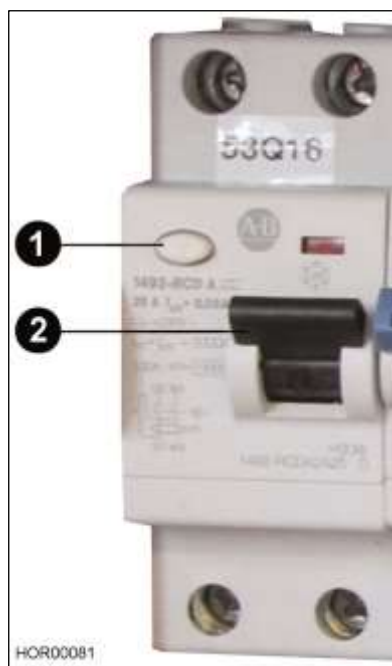

Bild 9 Ground-fault circuit interrupter (GFCI)
4.2.1 Function of the ground-fault monitoring system (GF)
The EM III has a built-in ground-fault monitoring system (GF) that also protects the heating circuits. The GFCI turns off the entire heating system in the case of a current flow of > 30 mA between the heating mat surface and heating conductor. After checking the heating mat as well as the supply cable for damage/wear, the system shutdown can be cancelled using the ground-fault monitoring system's on/off switch (Bild 9/2) which is located inside the control box (switch position "I").
The ground-fault circuit interrupter can be tested by pressing the test button "T" (Bild 9/1). The circuit interrupter works properly when the on/off switch (Bild 9/2) flips over to the "0" position.